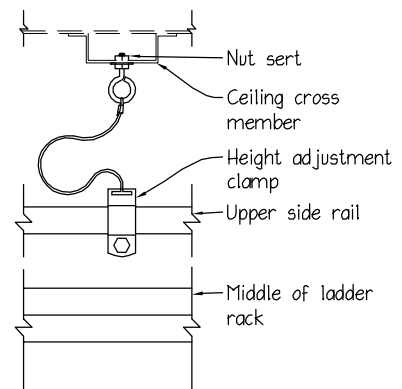

FIG. 3 - Side View
3. Locate ceiling brace that is next one forward from rear door frame. Raise rack upward and latch with rear chain snap. Mark a spot on each side of rack that is 1" out from sides of rack. This is where the two height limiting cables will mount. Drill 7/16" hole and insert nut sert. Screw both height limit cable eyebolts into these nut serts approximately 1" and lock into position with jam nut. Bolt height limit cable lower clamps to ladder rack rails and slide towards front or rear of ladder rack until you find a desired drop height. Do same with the opposite cable, making sure equal tension rests on both cables. Place ladder in rack and check for smooth operation. Be sure rear of rack clears rear doors. Front pivot points can be moved to another set of holes if this is a problem. Rear latch chain may be adjusted at this time to raise ladder rack to maximum height when stowed. (See Fig. 3)